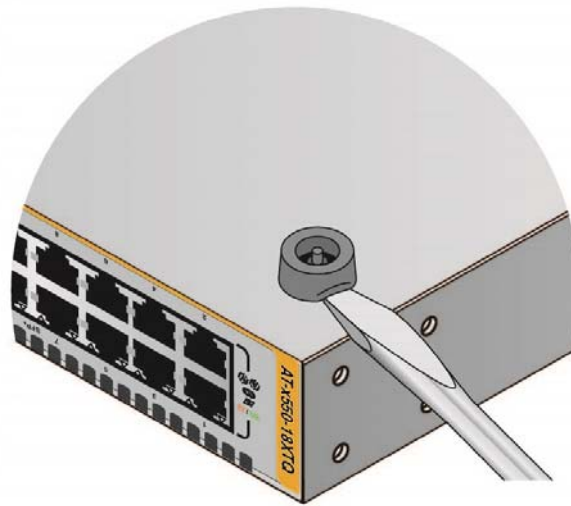

Figure 27. Removing the Plastic Feet from the Bottom Panel of the Switch
5. Use a small flat-head screwdriver to pry the four plastic feet from the bottom of the switch. Refer to Figure 27.